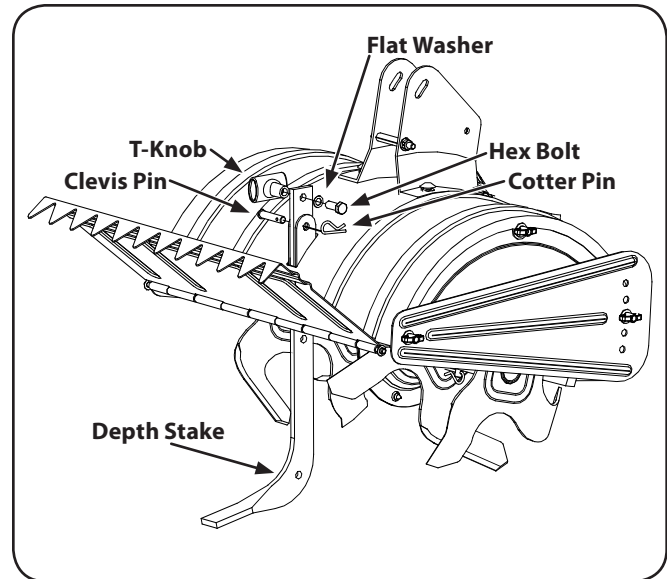

Figure 3-1
2. Unthread the "T" knob from the top of the depth stake and remove the flat washer and hex bolt. Remove the cotter pin from the clevis pin. See Fig. 3-1.
5. Insert the hex bolt into the top hole of the depth stake assembly. Place the flat washer on the hex bolt and thread the T-knob onto the hex bolt. Tighten securely. See Fig. 3-1.